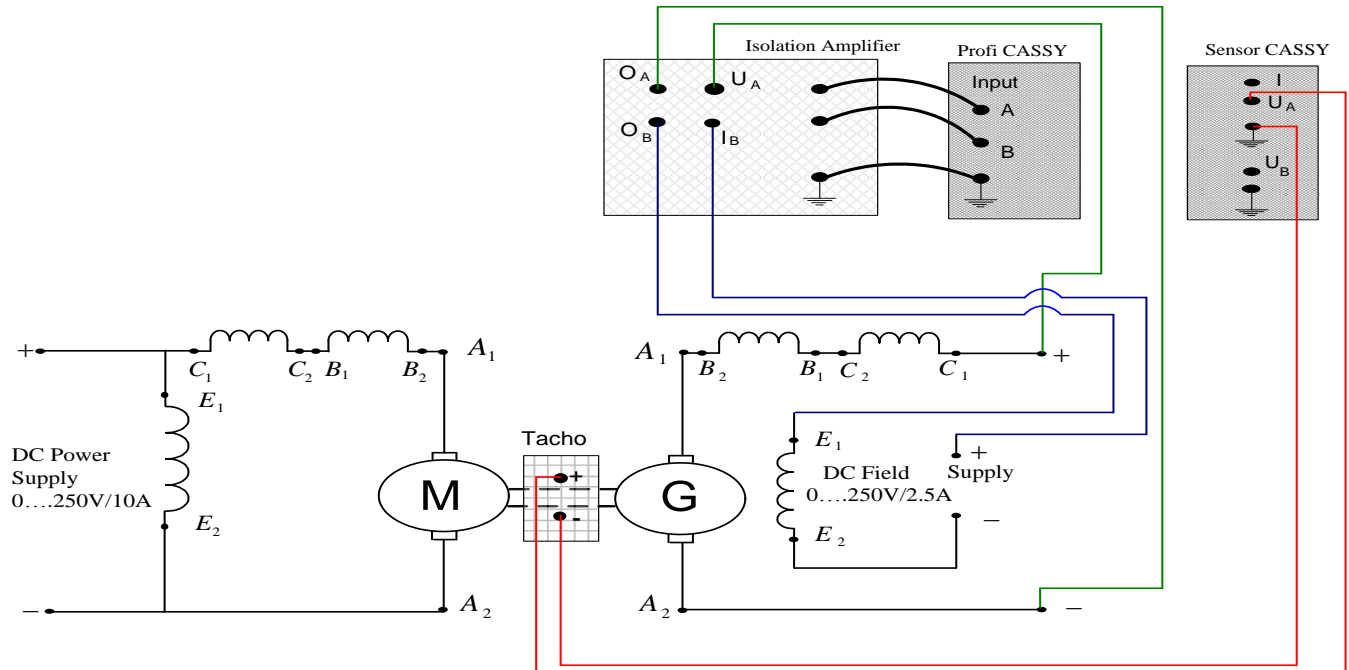

Figure 1: OCC DC Generator Set Up
- Connect the circuit as shown in Figure 1 using Cassy measurement Connection for the indicated field current, open circuit voltage, and rotor speed.